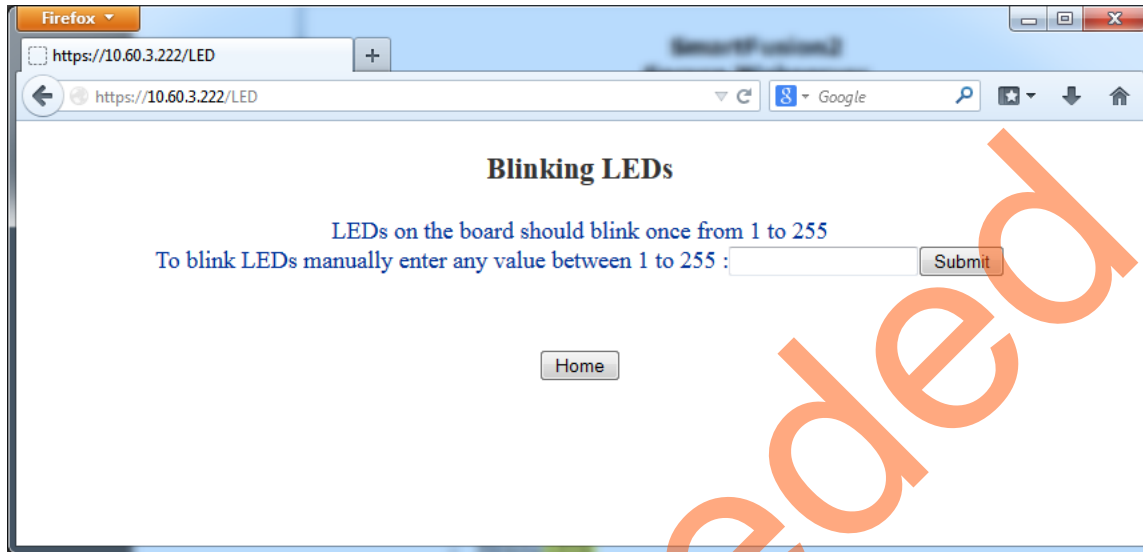

Figure 18 • Blinking LEDs Page
1. Click **Blinking LED's** on the main menu. You can observe a running LED pattern on the SmartFusion2 board. The webpage gives an option to enter the values to blink the LEDs manually as shown in Figure 18.